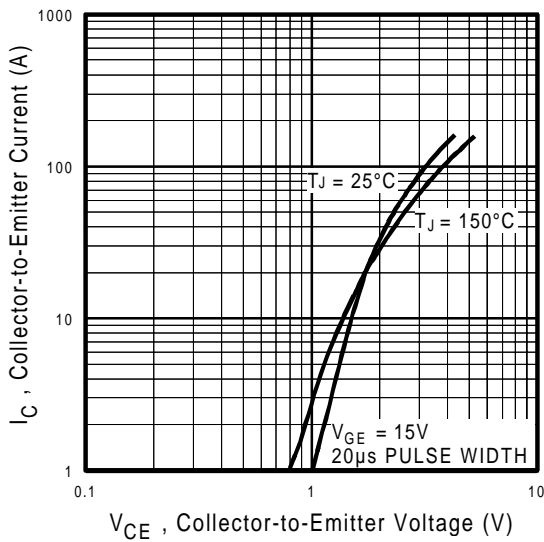

Fig. 2 - Typical Output Characteristics
| $V_{(BR)ECS}$ | Emitter-to-Collector Breakdown Voltage ④ | 18 | ---- | ---- | V | $V_{GE} = 0V, I_C = 1.0A$ See Fig. 2, 5 | |